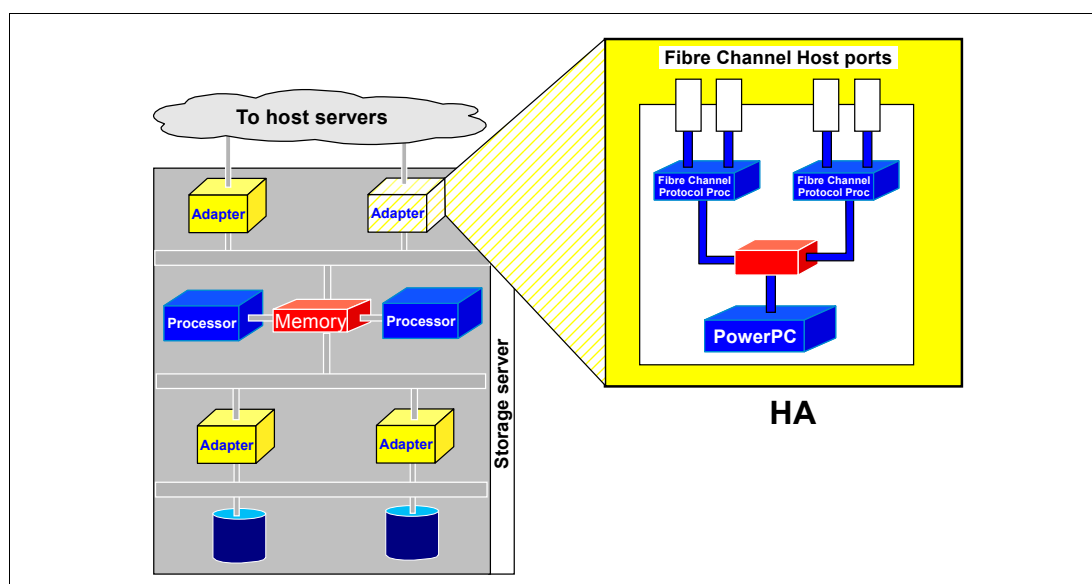

Figure 7-7 Host adapter with four Fibre Channel ports
Before looking into the heart of the DS8000 series, we briefly review the host adapters and their enhancements to address performance. Figure 7-7 shows the host adapters. These adapters are designed to hold either eight, or four Fibre Channel (FC) ports, which can be configured to support either FCP or FICON.